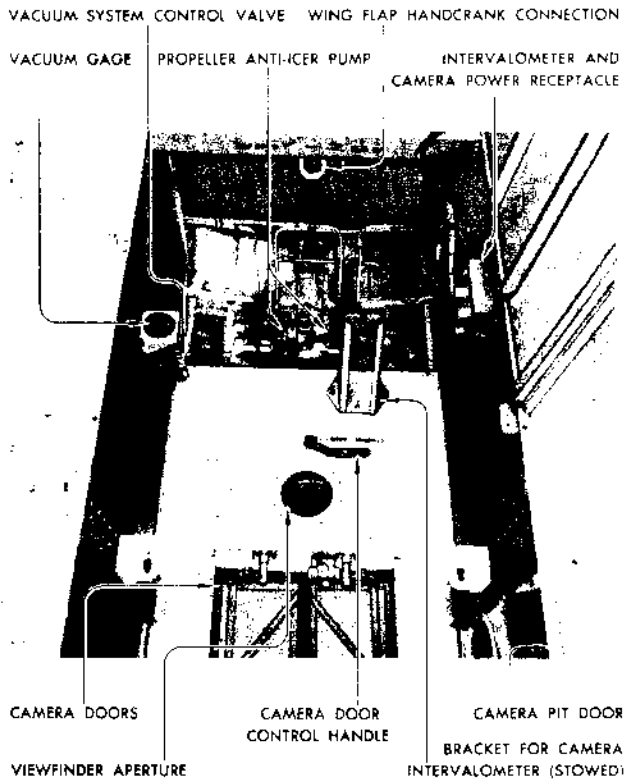

Figure 62—Camera Pit
c. The double camera doors (Figure 62) and the view finder aperture in the bottom of the fuselage open outwards. They are operated at the same time by the camera door control handle. The door latches must be released by hand before using the control handle. Four supporting brackets for the camera are above the camera doors on each side of the well. The brackets are adjustable to four different heights by removable pins.